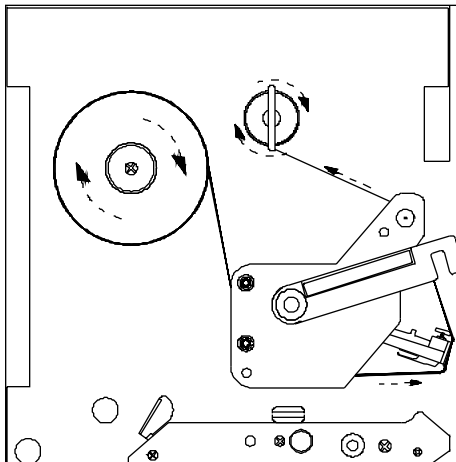

Figure 3-6 Ribbon Loading Path
- ❶ Unlatch and raise the printhead.
- ❷ Slide the ribbon roll onto the Ribbon Supply Hub with the leader coming over the top of the roll. Ensure that the ribbon roll is pushed back fully against the flange at the base of the Ribbon Supply Hub.
- ❸ Thread the ribbon along the path as shown in Figure 3-6.